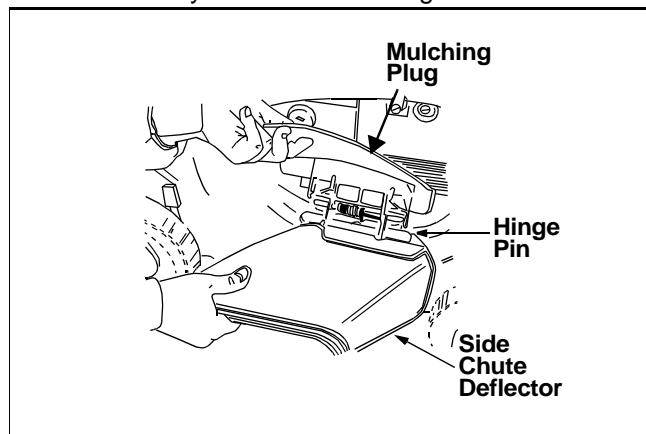

Figure 10
- Your mower has been shipped as a mulcher. To convert it to a side-discharge mower, lift the mulching plug. Slide the two hooks on the side-discharge deflector under the hinge pin on the mulching plug assembly. Lower the mulching plug. See Figure 10.